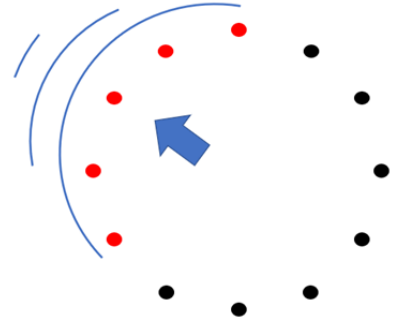

Figure 12
- **NOTE** In Figures 12, 13, and 14 each red dot represents a lit LED. The black dots are not visible, and are only for reference. These LEDs would be off/not illuminated.